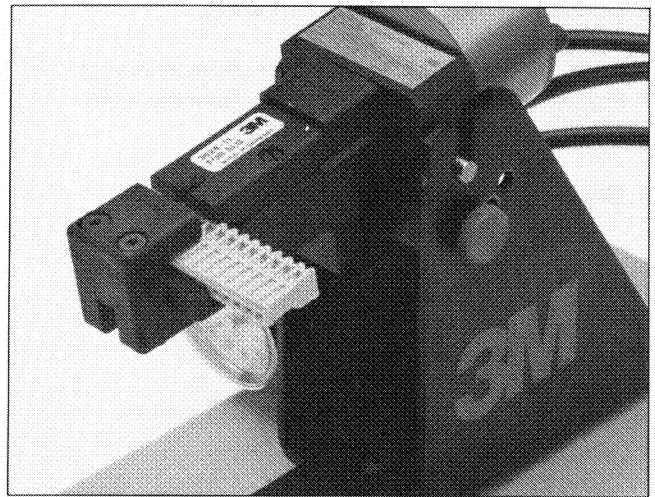

Figure 3
3. Slide connector to the left until the space between the first contact is aligned with the slot in the assembly head (Figure 3).